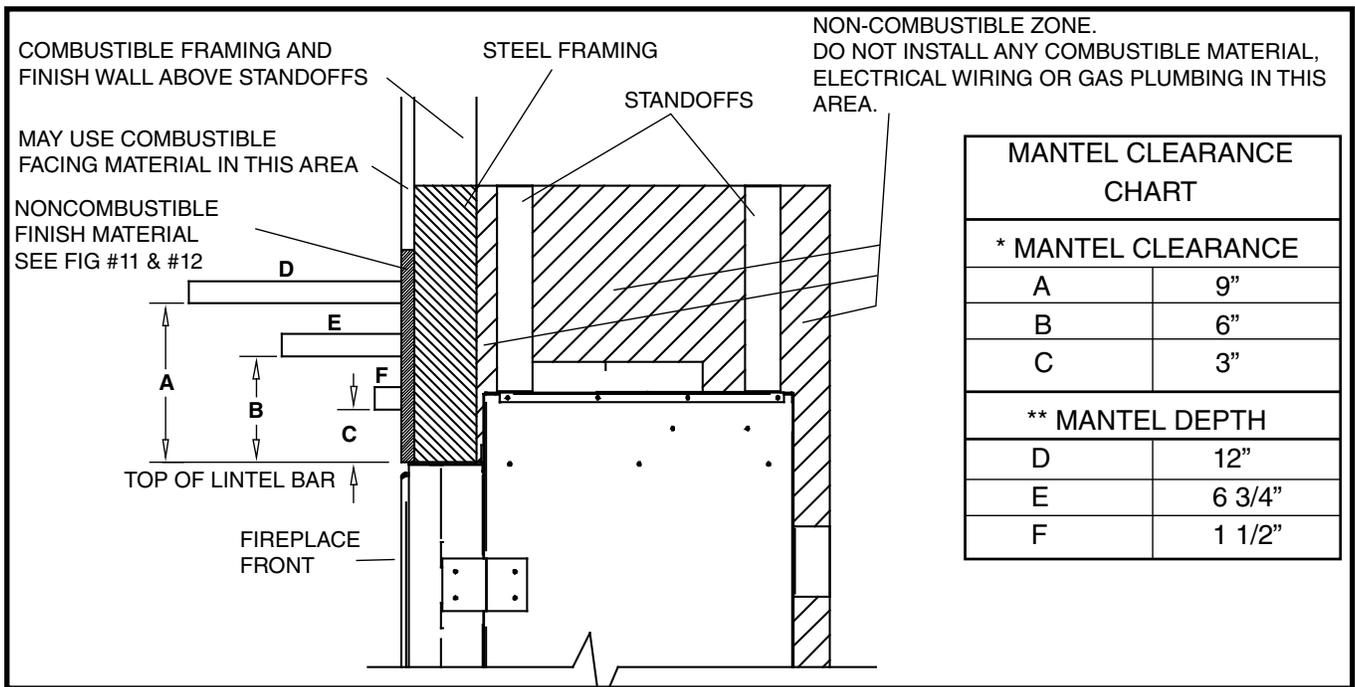

Figure 2: TC30 Mantle clearances.
**The minimum clearances from the fireplace to combustible surfaces must be adhered to and are shown in Figures 2 & 3.**